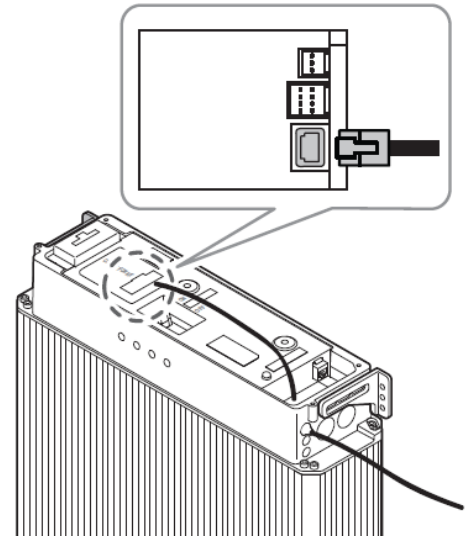

Figure 5 Insert RJ45 plug into battery port
Step 2 Insert the RJ45 plug into the battery port until it makes a clicking sound (Figure 5).